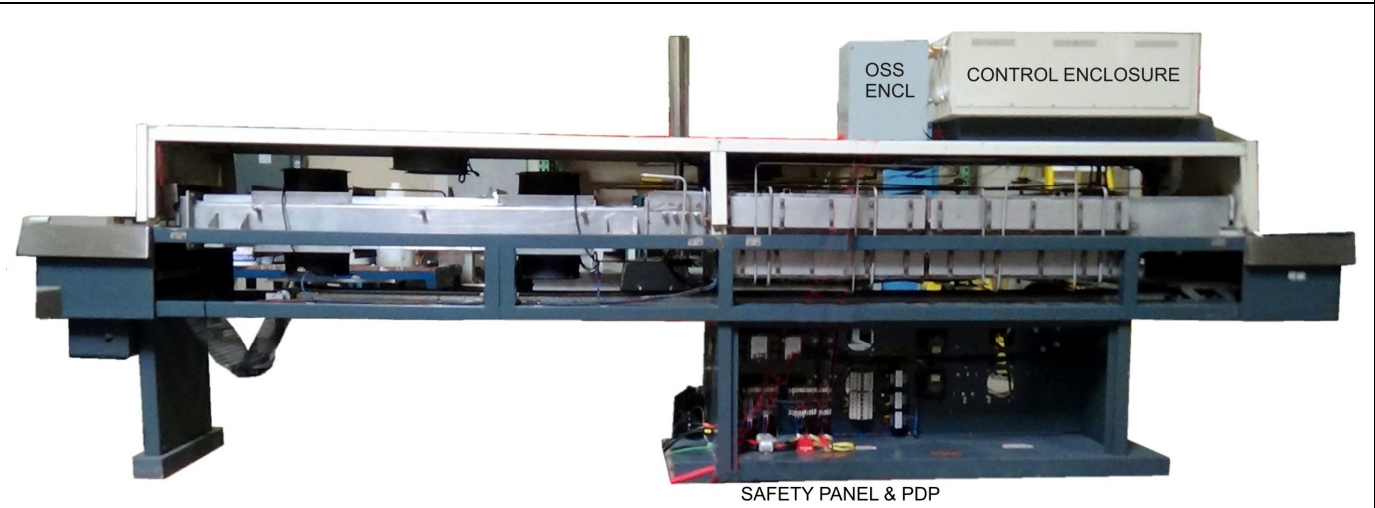
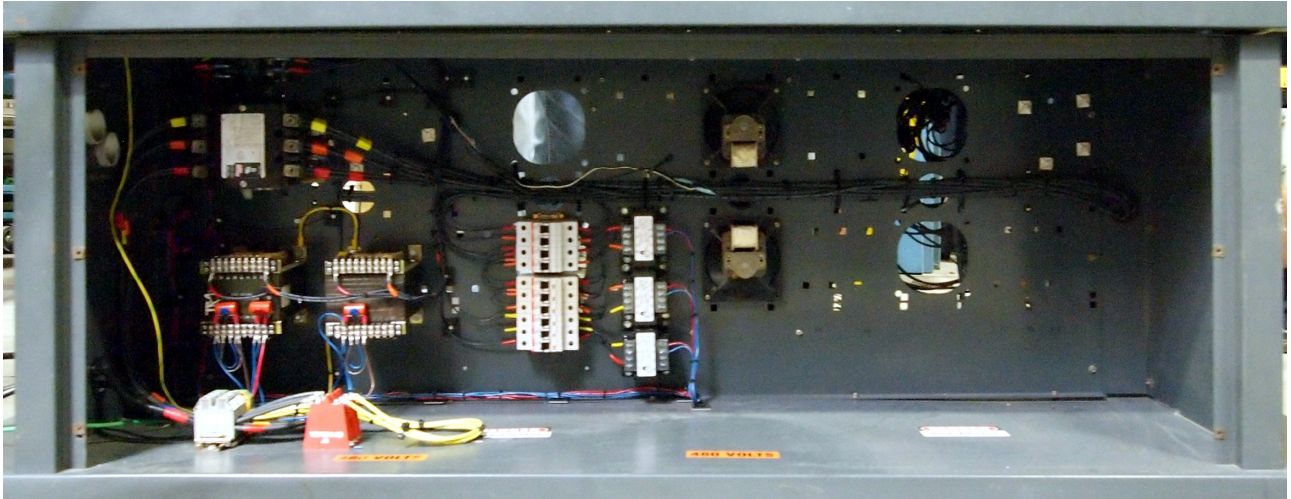

Figure 4-6 Rear with Side Panels removed
Figure 4-8 Power Distribution and Safety panels
**Safety panel** – Point where power enters the furnace. Contains main contactor and primary transformers. Located at furnace entrance, back side (Figure 4-6 and Figure 4-8).
**PDP** or Power Distribution Panel – Distributes power for 3 phases. Integrated with Safety panel on furnace rear side (Figure 4-6 and Figure 4-8).